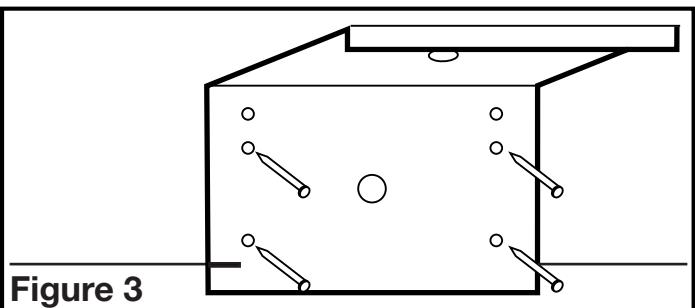

Figure 3
1. Using the gauge on the mounting bracket, line up the bracket on the joist so the bottom of the fan will be flush with the finished ceiling. Nail or screw the bracket in place securely (**Figure 3**).
2. Line up the bracket on the joist so the bottom of the fan will be flush with the finished ceiling. Nail or screw the snap-in bracket in place securely (**Figure 3**).